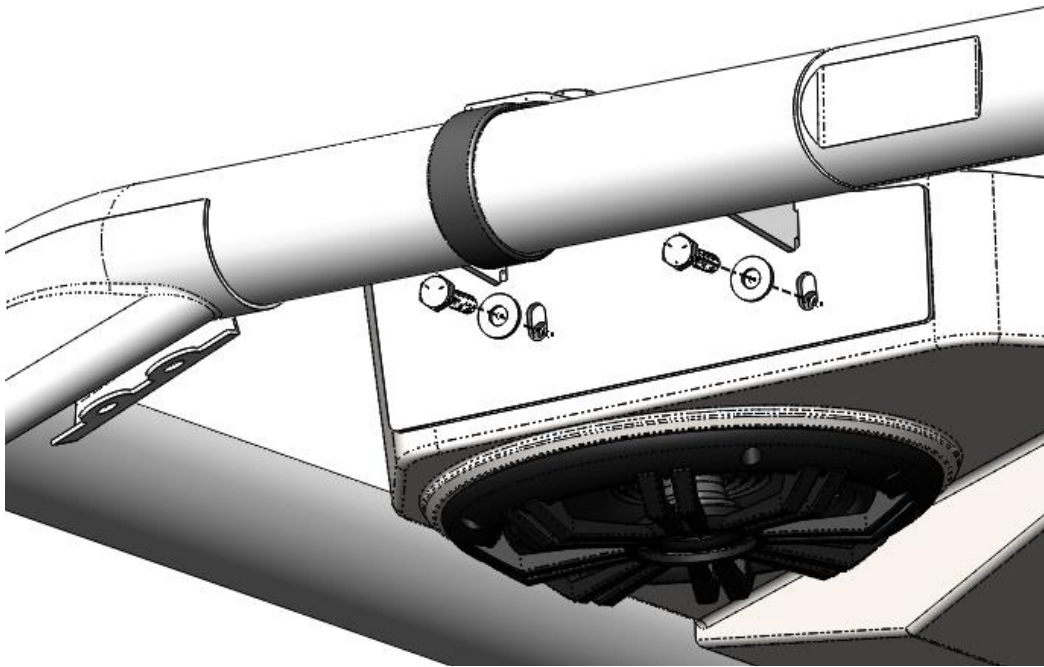
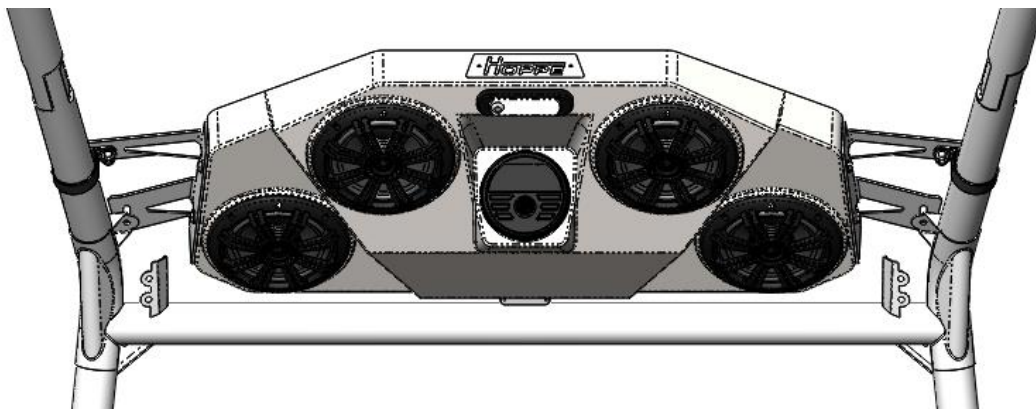

Figure 13: Install the 1/4"-20 bolts and washers to mount the Audio Mini to the brackets.
Figure 14: Loosely install the sound system on the mounting brackets.
14. Hang the *Audio Mini* off-road sound system on the brackets using the supplied $\frac{1}{4}$ "-20 x 1" bolts and washers (loosely tightened). See Figure 13 and Figure 14.